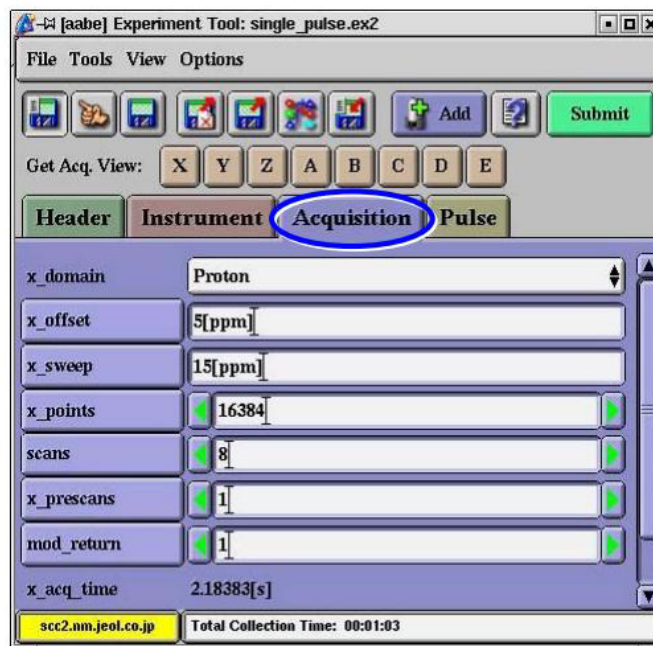

Fig. 3.6: Acquisition Section
- ix. Go to Acquisition section as shown at Fig. : 3.6